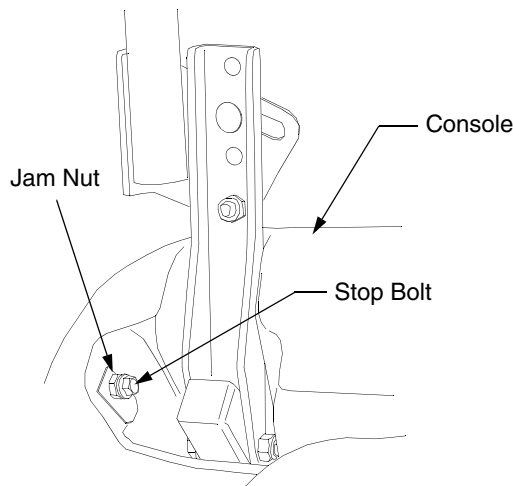

Figure 26
- Locate the applicable stop bolt on the left or right console. See Figure 26.